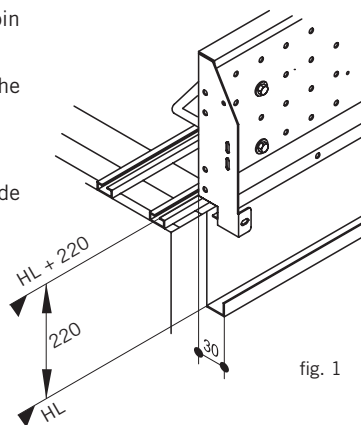

fig. 1
- 2° Place the operator 220mm. higher than the clear height of the cabin (fig. 1).